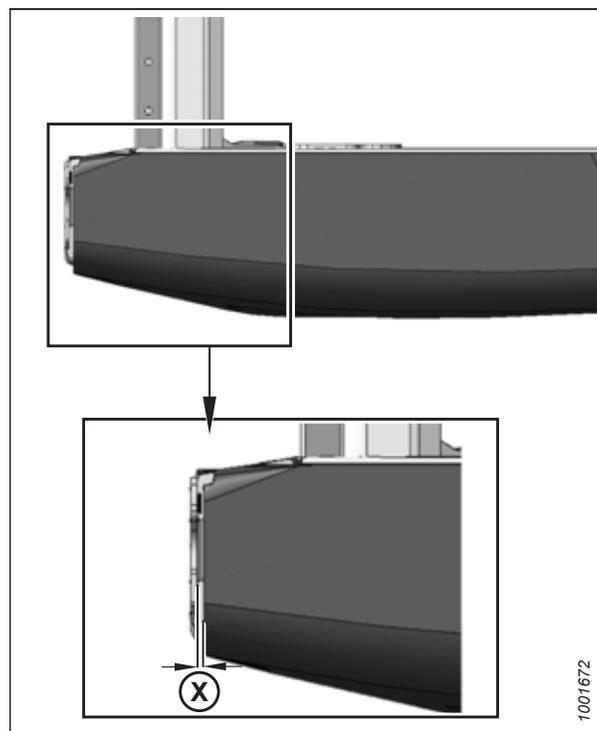

Figure 3.16: Left Endshield
3. Loosen nut (A) on pin (B) from inside the endsheet using a 19 mm (3/4 in.) socket.
4. Close the endshield and adjust its position to achieve the gap (X) (shown in Figure 3.16, page 39) between the front end of the endshield and the header frame.
5. Open the endshield and tighten nut (A).
6. Loosen the bolts on catch (C), and adjust the catch as required to reposition the endshield. Ensure there is a snug fit between the top of the endshield and the header frame and that the endshield is fully engaged on pin (B).
7. Tighten the bolts on catch (C).